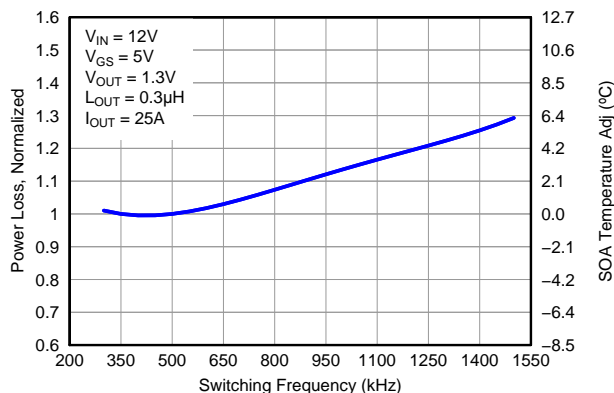

Figure 6. Normalized Power Loss vs. Switching Frequency
- Normalized Power Loss for switching frequency  $\approx 1.08$  (Figure 6)
- SOA adjustment for switching frequency  $\approx 1.8^\circ\text{C}$  (Figure 6)